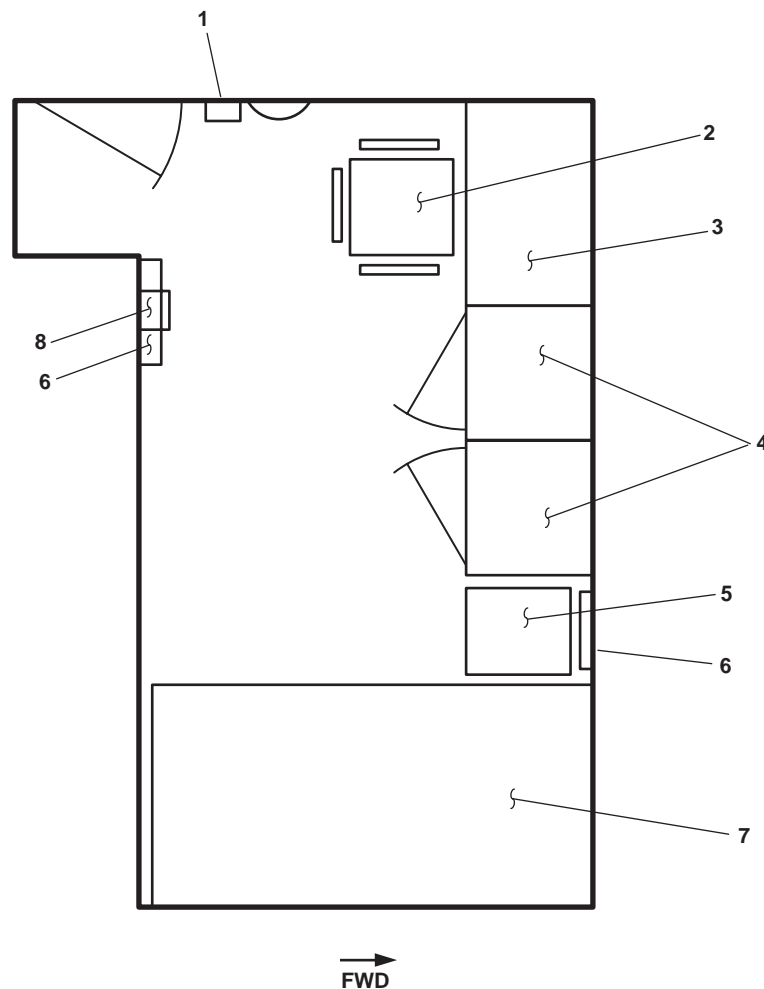

Figure 8. NCO's Stateroom
1. Thermostat (figure 8, item 1). The thermostat provides temperature control in the stateroom.
2. Chair (figure 8, item 2). The chair provides a place to sit.
3. Chest/desk combo (figure 8, item 3). The chest/desk combo provides storage space and a desktop for reading or writing.
4. Lockers (figure 8, item 4). The lockers provide storage space for personal items.
5. Refrigerator (figure 8, item 5). The refrigerator provides cold storage for perishable items.
6. Life jacket stowage (figure 8, item 6). Each life jacket stowage provides storage for one life jacket.
7. Bunks (figure 8, item 7). The bunks provide sleeping arrangements for NCOs.
8. Intercom (figure 8, item 8). The intercom provides intraship communication.